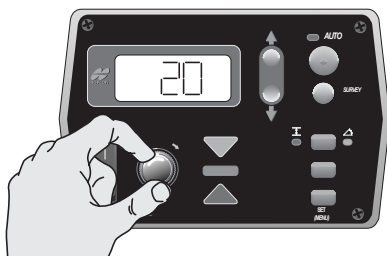

Figure 22. Selecting the Gain Value
2. Turn the Grade Adjustment Knob to select the desired value, typically 20% to 25% (Figure 22).